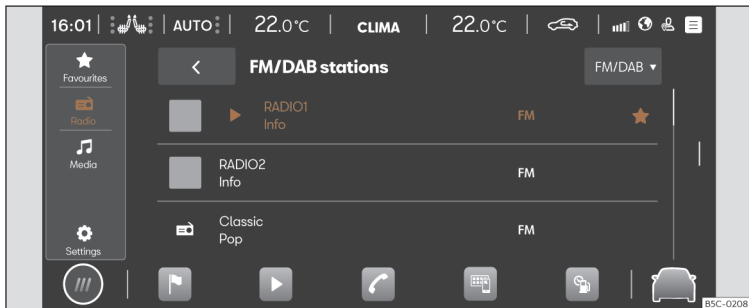

Fig. 166 Schematic diagram: Radio view.
- Press **HOME** > **▶** > **☰** >>> **Fig. 166**.